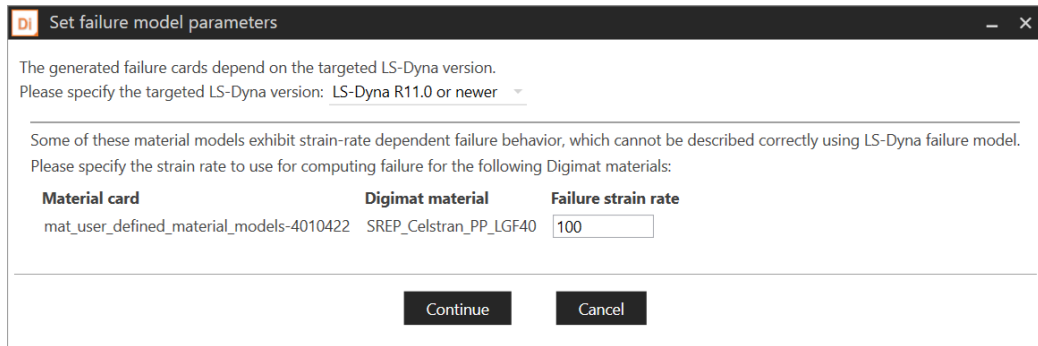

Figure 6-8 Definition of average strain rate for strain rate dependent materials.
- For LS-DYNA R10.2 (shell elements) and LS-DYNA R11.1, failure criterion are computed in a element-by-element way. In this case, for material depending on strain rate, user has to specify the average strain rate of the simulation to get to most accurate value of the failure parameters, as illustrated in Figure 6-8.